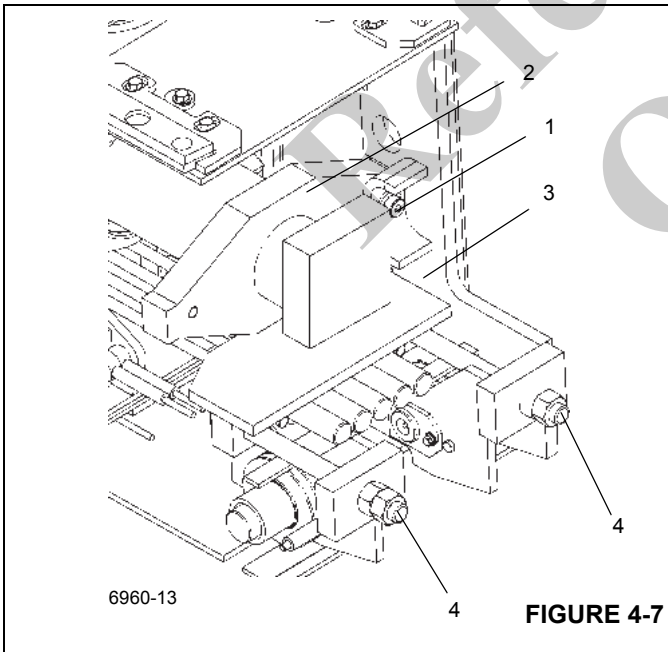

FIGURE 4-7
- Remove the two capscrews and washers (1) securing the cylinder inner rod (2) to the rear of the inner mid (3) (Figure 4-7).
- Remove the nuts (4) from the extend cable sled weldment adjusting bolts (Figure 4-7).